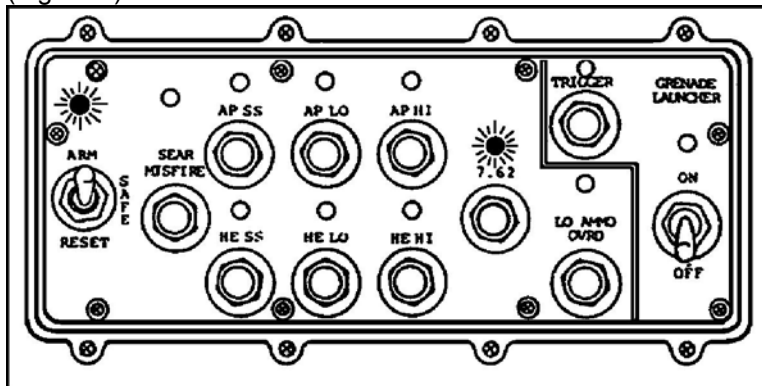

Figure 3. ARM-SAFE-RESET switch.
3. Move the ARM-SAFE-RESET switch on the weapon control box to ARM. Check that the indicator light comes on (Figure 3).